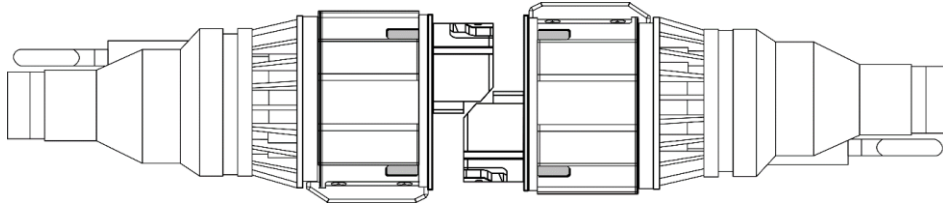

Figure 22: Connectors Unmated and in the Lock Position
1. Grasp one Inline Connector in each hand and align them opposite one another as shown in Figure 22.